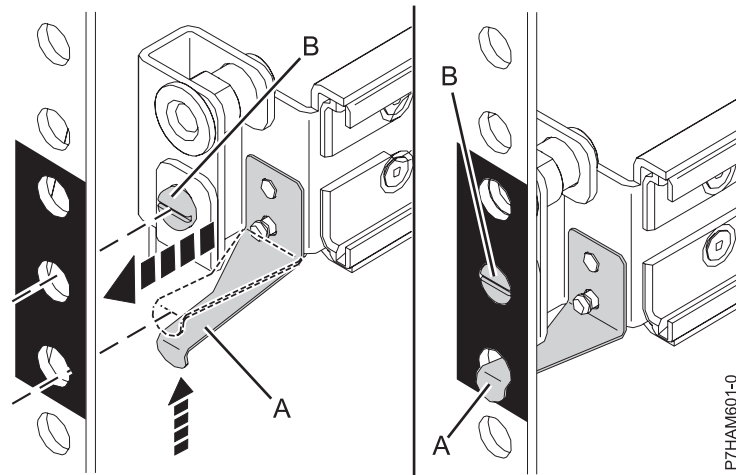

Figure 4. Mounting the rail to the front of the rack
- The tension clip (A) points toward the front of the rack and aligns with the bottom EIA hole that you marked previously, as shown in Figure 4 on page 7.
- c. Bend the tension clip (A) up and insert it into the bottom EIA hole that you marked previously, as shown in Figure 4 on page 7. Ensure that the lip of the clip is brought fully through the hole and clasped against the bottom of the hole. Seat the alignment screw (B) in the middle EIA hole that you marked previously.